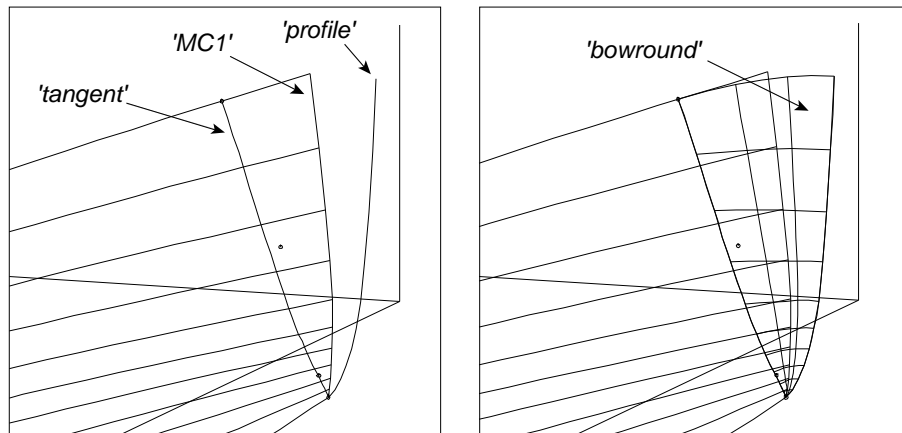

Fig. 2 (Left) Fig. 3 (Right)
- 7 **Rename** the B-spline Snake '**tangent**' (Fig. 2)